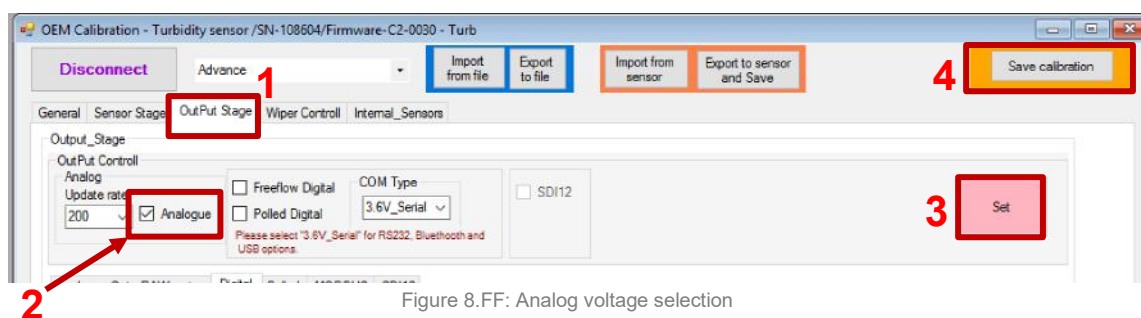

Figure 8.FF: Analog voltage selection
- Select “OutPut Stage” option (Figure 8.FF: #1).